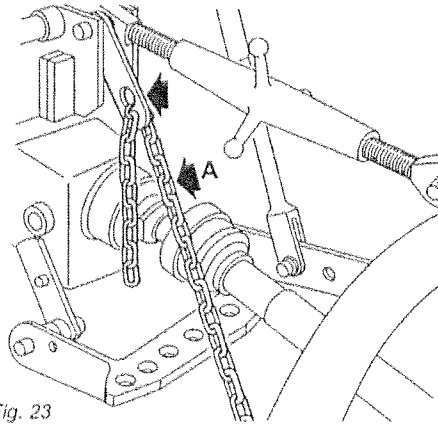

Fig. 23
- Using chain (A, Fig. 23), adjust the height of the mower attachment with respect to the tractor. Attach the appropriate link to the special plate hole (B, Fig. 23). Mark the link used so that the same